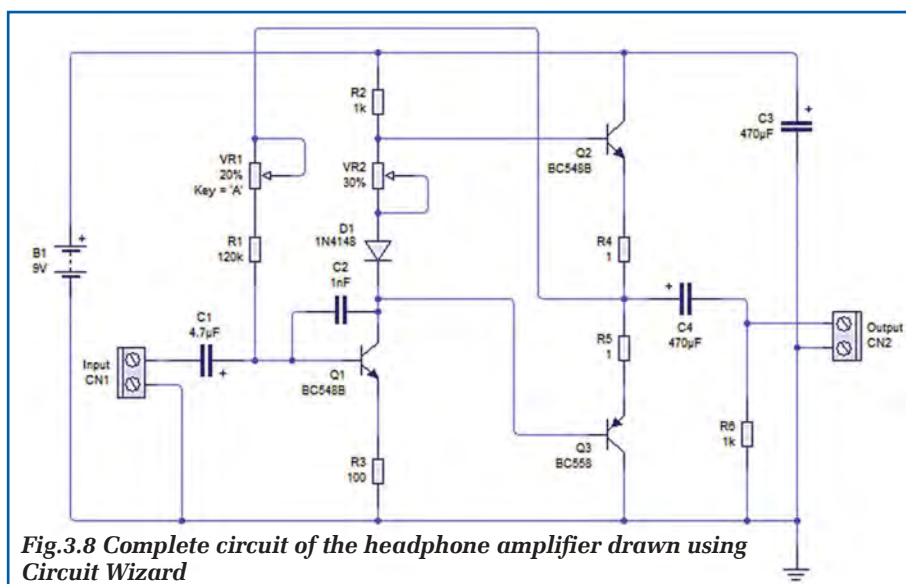

**Fig.3.7 Typical headphone frequency response**
2. These figures are often quoted by manufacturers without specified reference levels so they should only be taken as a rough guide to the headphone performance. Wherever possible, it is best to refer to a frequency response graph like that shown in Fig.3.7.
frequency response for a mid-range set of headphones is shown in Fig.3.7 (note the fall-off below 20Hz and above 10kHz).